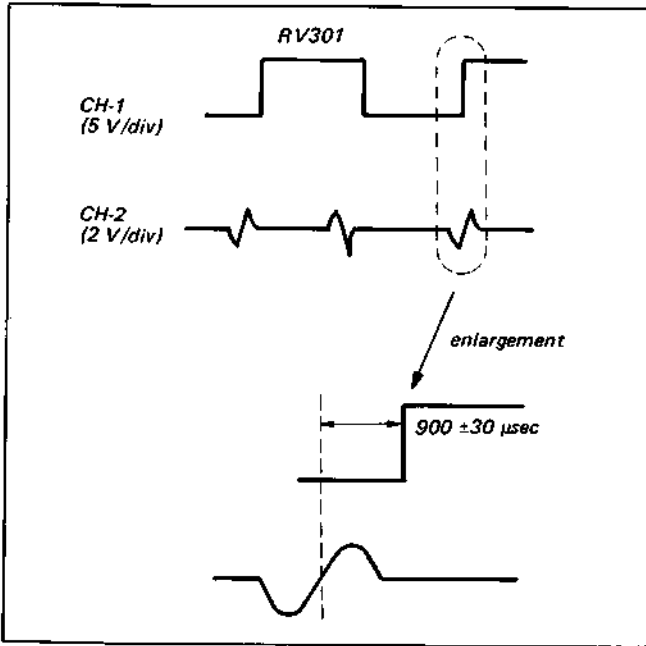

Fig. 5-9. RF switching position adjustment (2)
- ii) Adjust to $900 \mu\text{sec} \pm 30 \mu\text{sec}$ with RV301 at the rising edge. (See Fig. 5-9.)